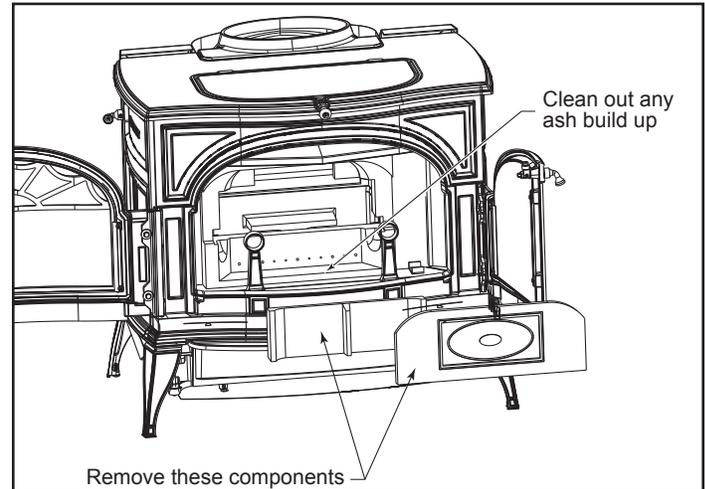

Figure 47 - Inspect and clean out ash accumulation behind the combustion system.
- Inspect for and remove ash build-up behind the combustion package. This should be done in conjunction with annual cleaning of the chimney connector. Inspect the passage behind the combustion package (a mirror will be helpful) and vacuum away ash using a flexible vacuum hose inserted in the passage. (Figure 47)